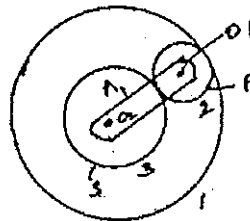

Fig. 6
- b) i) An epicyclic gear train consists of three gears 1, 2 and 3 as shown in fig. 6 the internal gear 1 has 72 teeth and gear 3 has 32 teeth. The gear 2 meshes with both gear 1 and gear 3 and is carried on an arm A. Which rotates about the centre O_2 at 20 rpm. If the gear 1 is fixed, determine the speed of gears 2 and 3. (12)